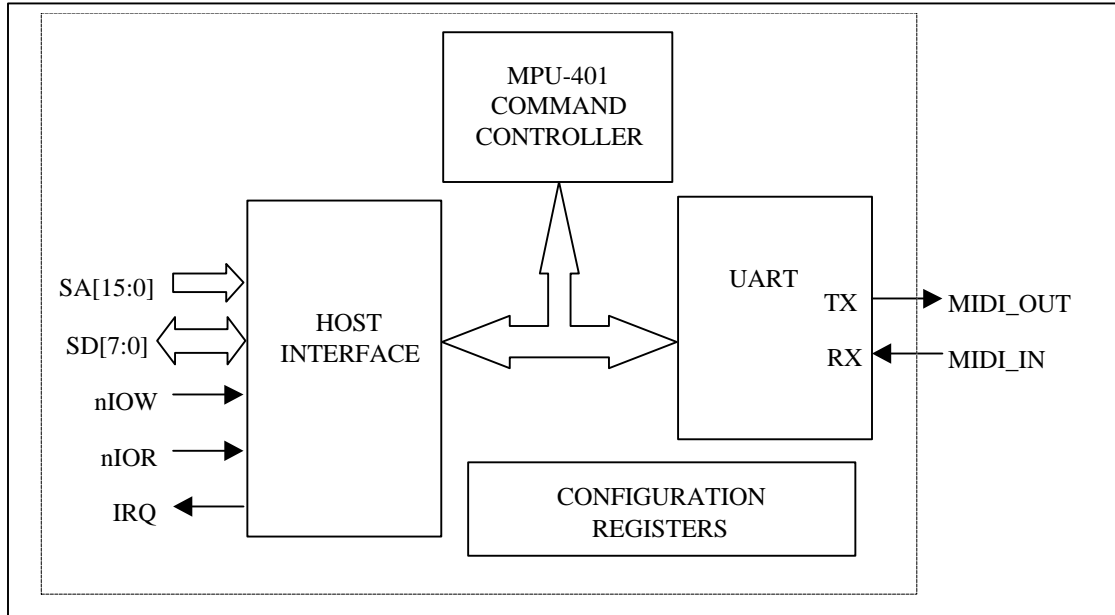

FIGURE 2 - MPU-401 MIDI INTERFACE
Serial Port 3 is used exclusively in the LPC47B27x as an MPU-401-compatible MIDI Interface. The LPC47B27x MPU-401 hardware includes a Host Interface, an MPU-401 command controller, configuration registers, and a compatible UART (Figure 2).
The Host Interface includes two contiguous 8-bit run-time registers (the Status/Command Port and the Data Port), and an interrupt. For illustration purposes, the Host Interface block shown in Figure 2 uses standard ISA signaling. Address decoding and interrupt selection for the Host Interface are determined by device configuration registers (see Section “MPU-401 Configuration Registers”).
- NOTE³ IRQ is the MPU-401 Host Interface IRQ shown in Figure 2. The UART Receive FIFO Threshold = 1.